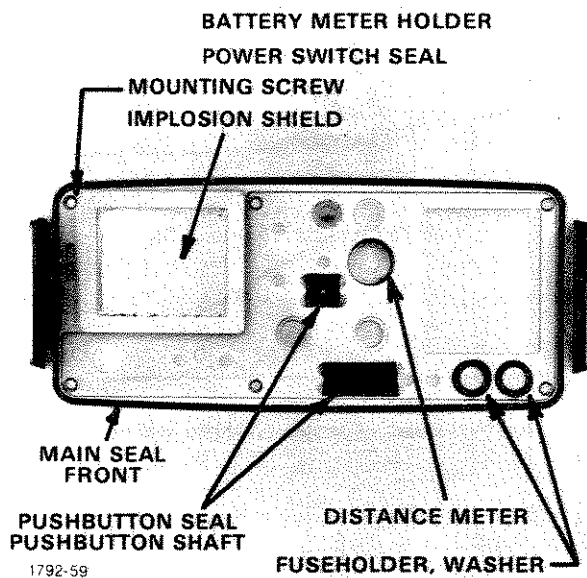

Fig. 5-5 Subpanel, identification of parts for steps 1 through 7.
### 1. Preparation of the Subpanel for further assembly (see Fig. 5-5)
### 6. Installation of rubber seals in two grooves located on the outer (see Figs. 5-5 and 5-6) edges of the front and rear sides of the Subpanel
**7. Install the implosion shield and its retainer on the Subpanel (see Figs. 5-5 and 5-7)**